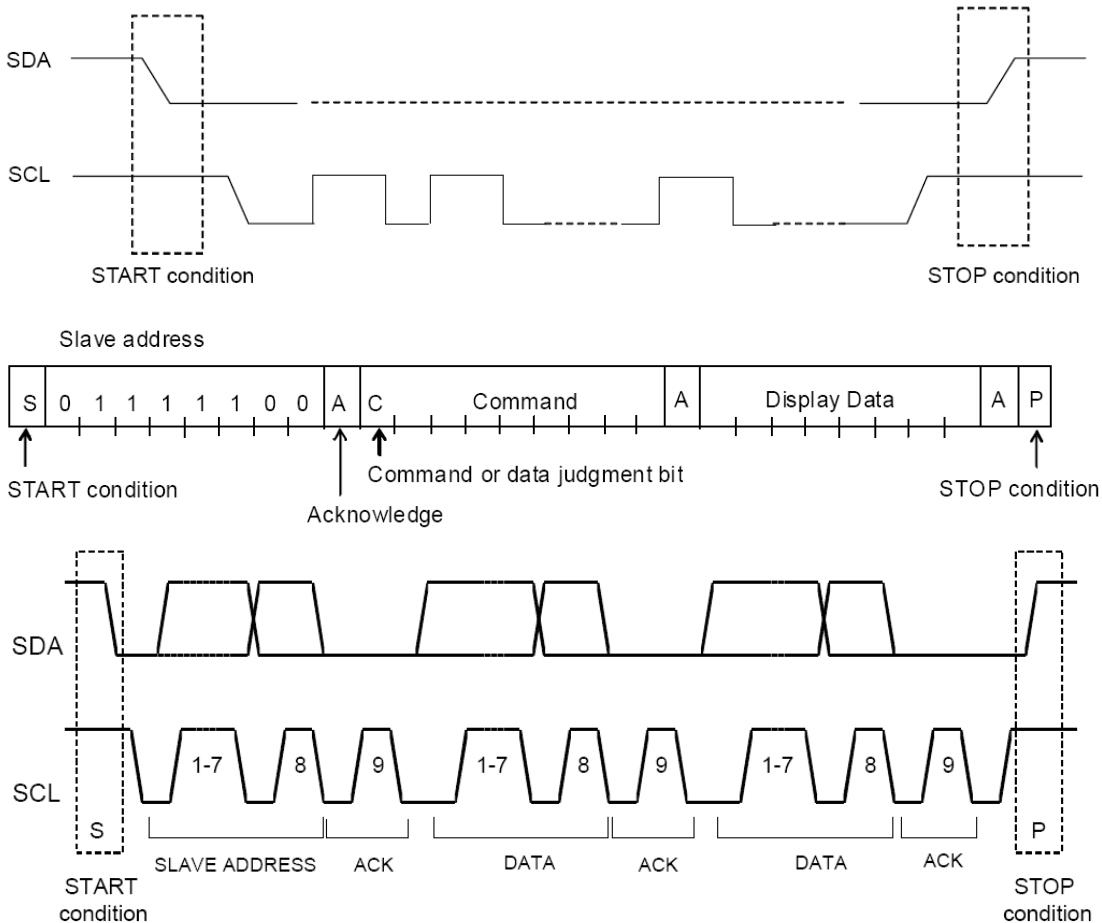

Figure 4
The I²C-bus protocol is shown in Fig.4. The sequence is initiated with a START condition (S) from the I²C-bus master which is followed by BL55080 slave address. After acknowledgement, one or more command bytes (m) follow which define the status of the BL55080. The last command byte is tagged with a cleared most significant bit, the continuation bit C. After the last command byte, a series of display data bytes(n) may follow. These display bytes are stored in the display RAM at the address specified by the data pointer and the subaddress counter. Both data pointer and subaddress counter are automatically updated and the data is directed to the BL55080. The acknowledgement after each byte is made by the BL55080. After the last display byte, the I²C-bus master issues a STOP condition (P).